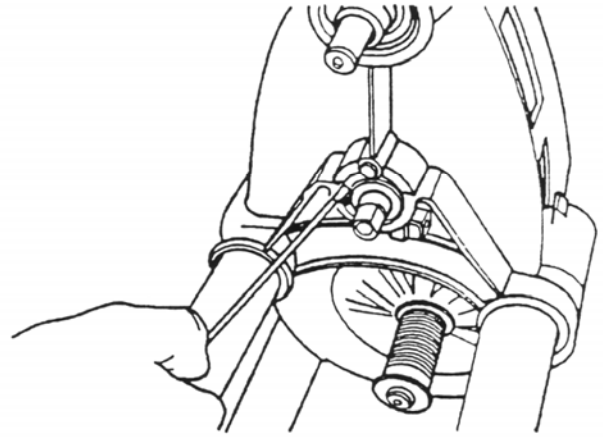
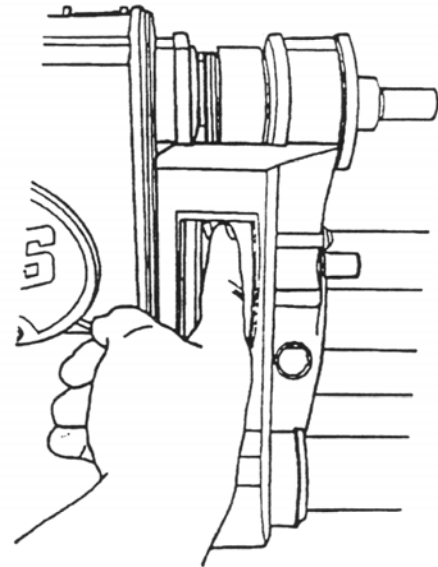

Fig. 27
Fig. 28
8. Tension the Poly V-belt. Before you tighten the hex socket cap screw, lock washer, and square nut that secure the eccentric bushing in the headstock, tension the Poly V-belt. To tension, insert a blade screwdriver in the slot of the eccentric bushing and turn the bushing clockwise in the casting until it stops. See Fig. 27. With your fingers push in on the Poly V-belt as demonstrated in Fig. 28. If you can push the belt in more than 1/8" when applying heavy pressure, the belt needs to be retensioned. Retighten the 1/4" socket cap screw when proper tension is achieved.